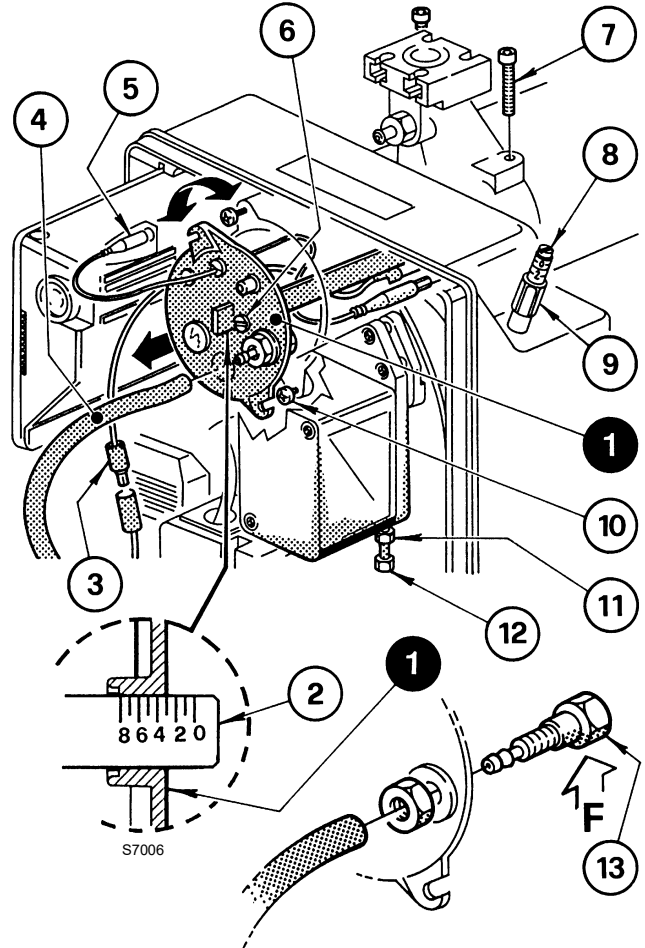

Fig. 12
This is carried out by turning the adjustment screw 6)(Fig. 12) clockwise or anti-clockwise until the notch on the regulating rod 2) lines up with the outside surface of the head assembly 1).
In the diagram of Fig. 12, the head is adjusted to an output of about 230 kW. The notch 4 of the regulating rod lines up with the outer surface of the head unit as shown in the diagram.
- disconnect the connections 3) and 5)(Fig. 12);
- remove the tube 4) and loosen the screws 10)(Fig. 12);
- unscrew and remove the screws 7), remove the head holder assembly 1)(Fig. 12) with a slight rotation to the right.
Take care not to change the setting position on the elbow-bracket 2)(Fig. 12) when removing.
Reassemble in the reverse sequence to that described above, repositioning the head assembly 1)(Fig. 12) as it was originally.
Screw in the screws 7)(Fig. 12), all the way without locking them. Lock them with a tightening torque of 3 - 4 Nm.
If the pressure test point 13) should loosen accidentally (Fig. 12) we recommend fixing it correctly ensuring that the hole (F) inside the head assembly 1)(Fig. 12) is facing downwards.